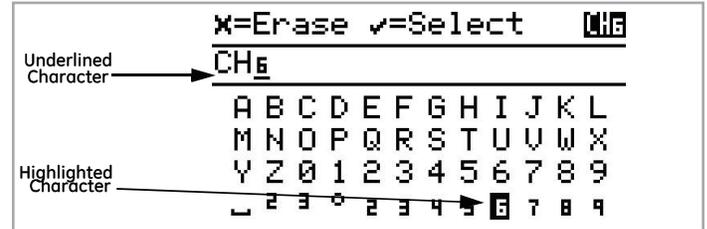

Figure 16: Alphanumeric Menu with Keyboard Highlighted
- Pressing the **Down** arrow will move the highlight to the **Keyboard** section (see Figure 16 below):